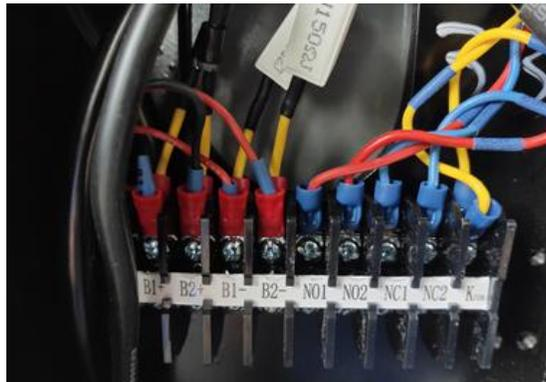

Figure 38
3. On the machine side disconnect the Brake and Brake Switch wires for the brake that is to be worked on, see Figure 38.